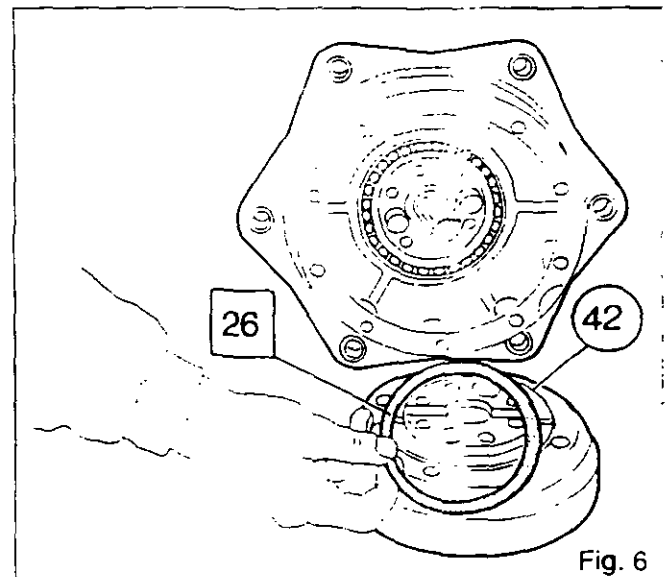
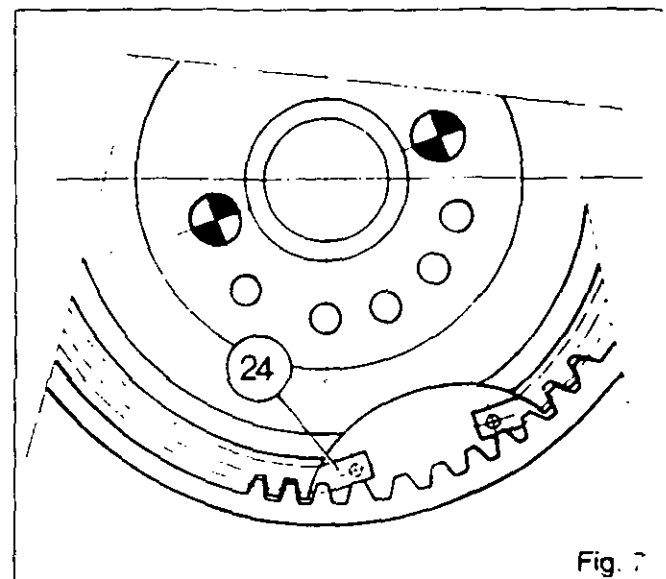

Fig. 6
Fig. 7
40. Fit the shims [26] (Fig. 6) chosen in operation 39 on the ring gear carrier (42) with bearing grease. Fit the assembled ring gear carrier (42), ring gear (44) and shims [26], with the two ends of the circlip (24) towards the bottom (Fig. 7).